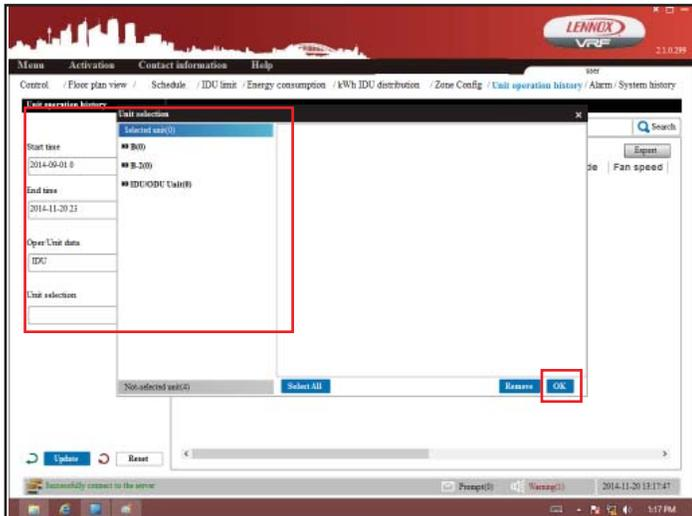

Figure 58. Select Units to Include
11. Tap the Unit selection field. A menu displays. See figure 58.